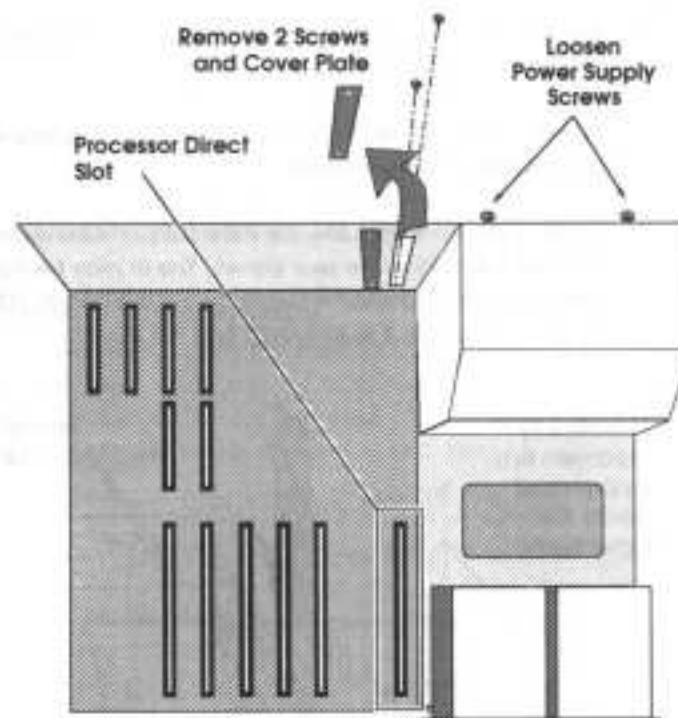

Figure 4.2 - Processor Slot location.
The A2000 G-Force '040 board uses the A2000's Processor Direct slot (see Figure 4.2). This is the multi-pin bus connector closest to the Drive Stage. There is only one way the board can fit into this slot.
- 3) Remove 2 screws and cover plate from rear panel (see Figure 4.2).
- 4) Locate the two upper screws that secure the power supply to the Amiga's rear panel. Loosen these and any other screws that prevent the rear panel from flexing (see Figure 4.2).